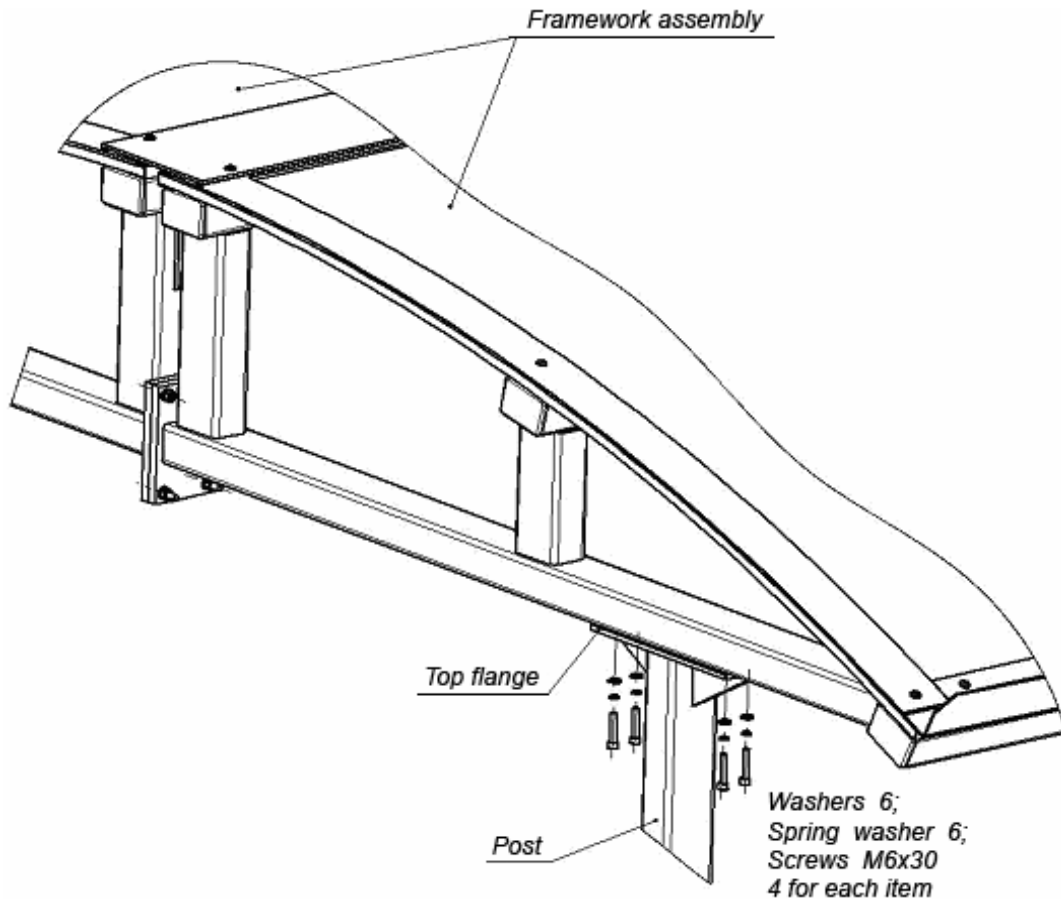

Figure. 7 Fixing the roof assembly to the post (3)
8.3.12 Drive the screws M6×30 with washers into the thread bushings in the roof sections through the four holes in the top flange (5) (Fig. 7). Obtrusive ends of the thread bushings should enter the counterbored holes in the top flanges. Differences between diameters of the bushings and the holes, and the screw M6 and the flange hole allow compensating for possible installation faults.